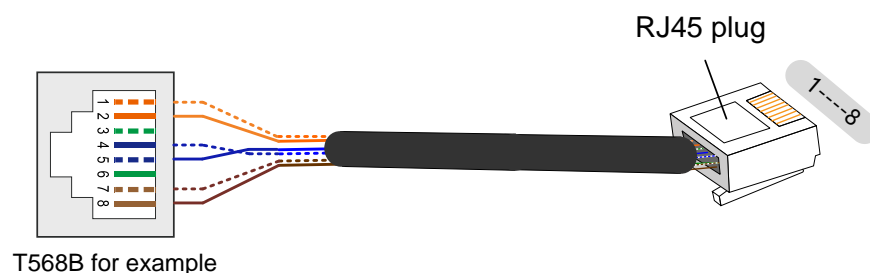

Figure 6 Swapping pins 4 and 5 of a standard Ethernet cable
Step 6 Cut off the RJ45 plug with 6 wires in and use the crimping tool to cut into the Ethernet cable plastic sheath about 1 inch (2.5 cm) from the end of the cut cable (Figure 6). Pick out the pins 4 and 5, then cross them over and carefully push the wires to the RJ45 plug again.